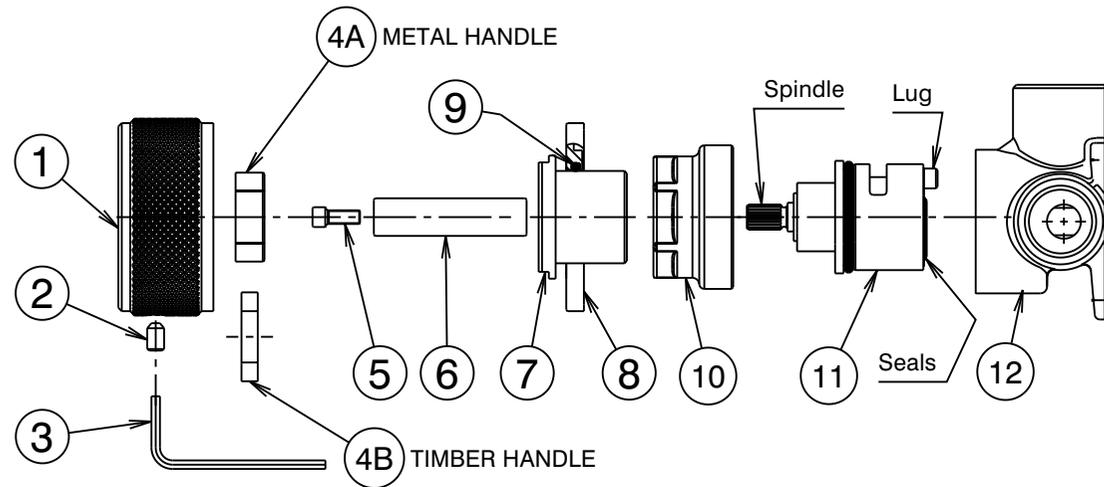

Fig. 2
- 4) Rotate the plastic insert (6) anti-clockwise to the stop position. Fit handle (1) onto insert (6) with the handle fixing scw hole pointing vertically downwards as shown (Fig.2). While holding the handle (1) firmly against the spacer (4), tighten grub screw (2) using the 2.5mm allen key (3).
Replacing Cartridge (Fig. 2)
- 4) Slide the handle spacer (4) onto the plastic insert (6) until the spacer rests against the sleeve (7). Fit handle (1) onto insert (6) with the handle fixing screw hole pointing vertically downwards as shown (Fig.2). While holding the handle (1) firmly against the spacer (4), tighten grub screw (2) using the 2.5mm allen key (3).